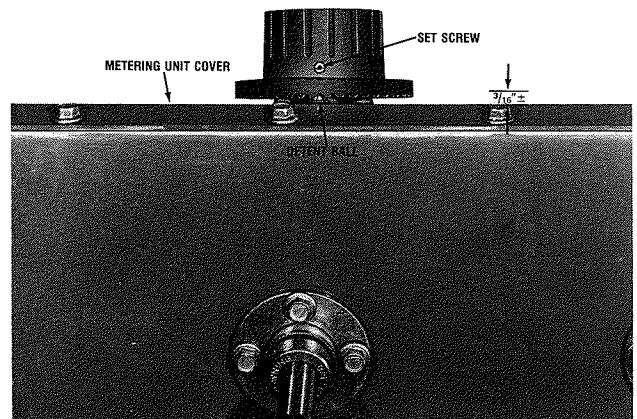

FIGURE 19
4. Place the knob over the collar with the forty (40) mark aligned with the dial setting index and tighten the set screw. The bottom edge of the knob should compress the detent ball against the spring and be approximately 3/16" above the surface of the metering unit cover, Figure 19.